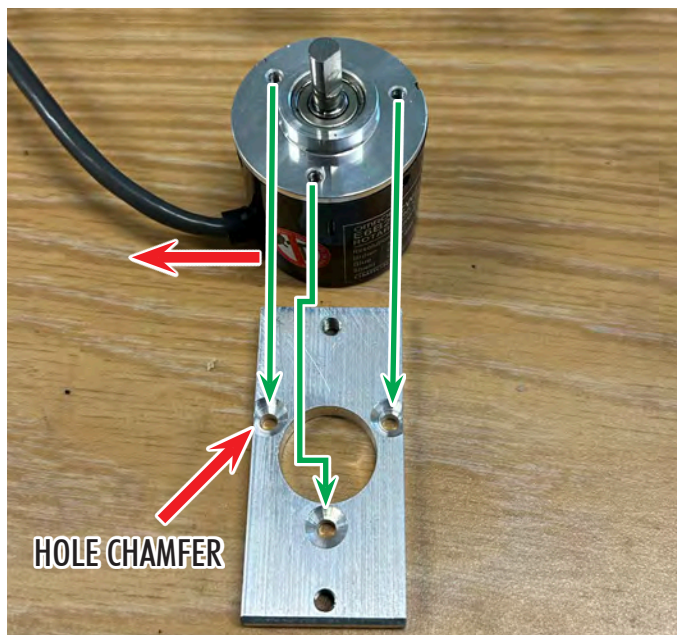

FIGURE 18
2. Lay out the encoder and the mounting plate (P/N 67112) as shown in Figure 18 below. Proper orientation of the three screw holes on the encoder to the mounting plate will result in the encoder cable being on the left side. The mounting plate will be assembled with the hole chamfer side facing away from the encoder body.